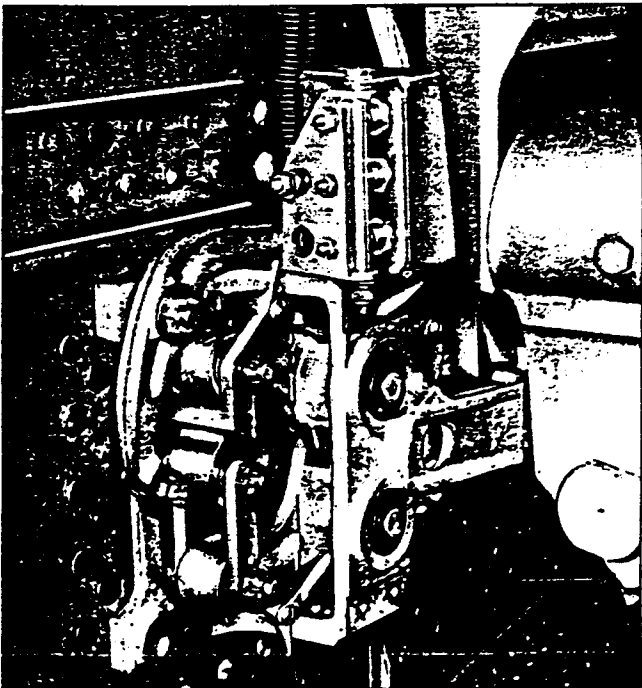

Figure 8. Main Landing Gear Down Lock
(5) MAIN GEAR DOWN-LOCKS. (See figure 8.)